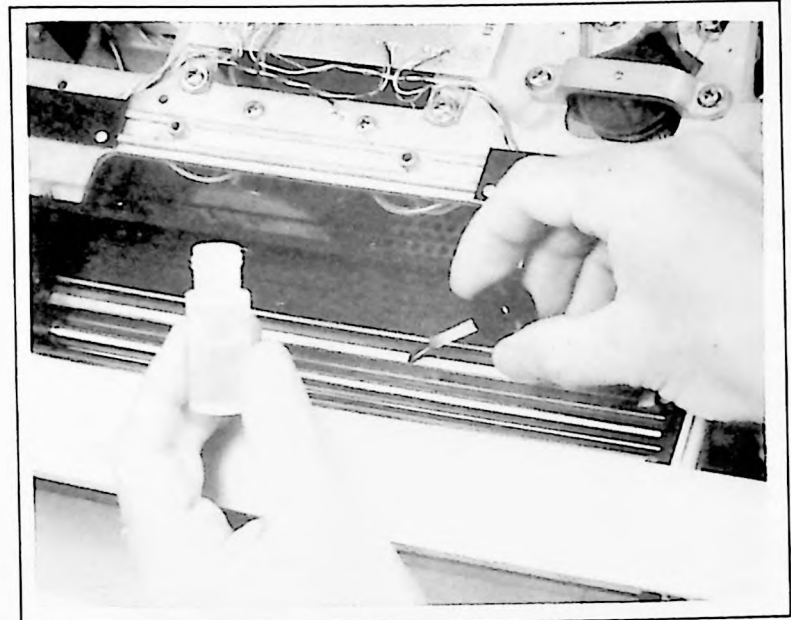

Figure 5-3. Slidewire Assembly Lubrication
f. After cleaning, lubricate sparingly with Slidewire Lubricant, HP Part Number 5080-3635, furnished with Accessory Kit. See Figure 5-3. This will reduce wear and chemical contamination. Wipe off all excess lubricant on Slidewire Assembly.